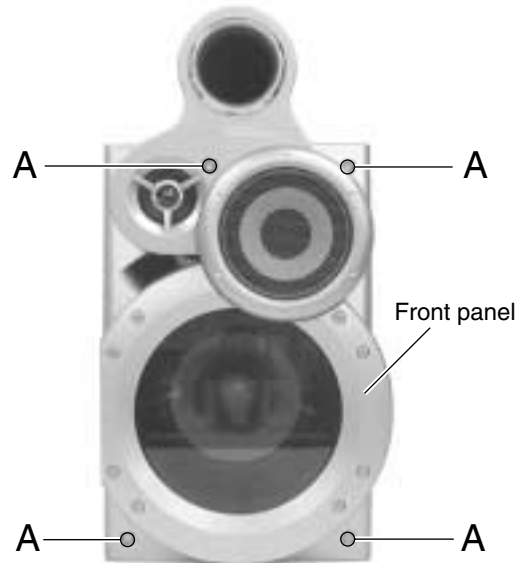

Fig.1
■ **Removing the front panel (See Fig.1)**